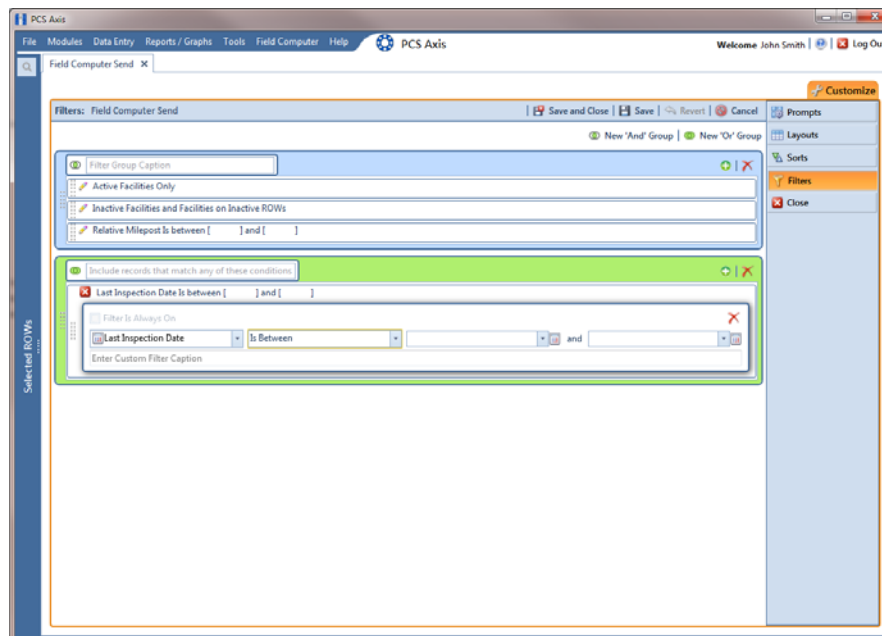

Figure 13-39. New 'Or' Filter Group
- 4 Click the **Customize** tab , then the **Filters** button  to open the *Filters* page (Figure 13-39, page 604).
- 5 Click  **New 'Or' Group** to open a filter properties group box (Figure 13-39).
- 8 If the OR filter group includes a date filter, such as *Facility Delinquent Date Is Between* shown in Figure 13-39, page 604, set a date range using a calendar or dynamic dates in the following manner: